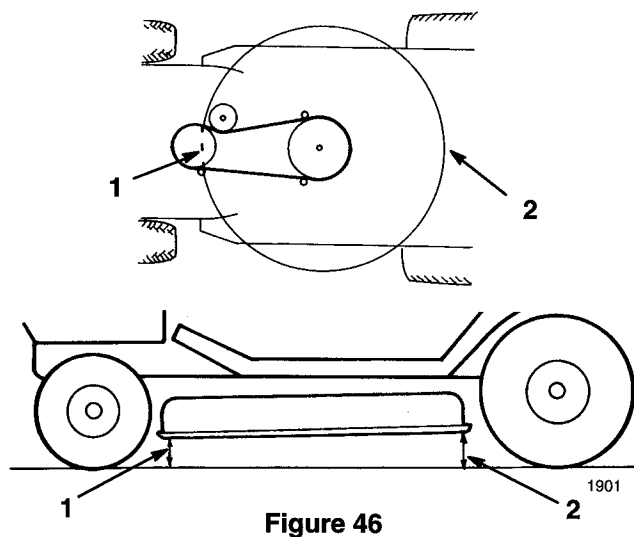

Figure 46
5. Check the front-to-rear blade slope by measuring between the bottom of the mower (front center and rear center) and the flat surface (Fig. 46). If the front of the mower is more than 1/4" (6.5 mm) lower than the rear of the mower, an adjustment is required; refer to steps 6–10.